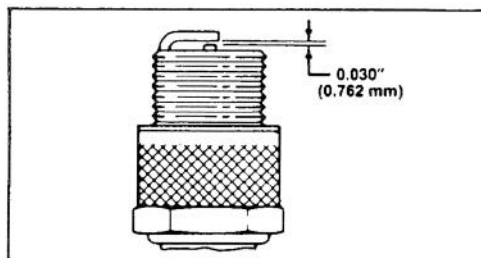

Figure 16
3. Set air gap at 0.030" (0.762 mm) (Fig. 16). Install correctly gapped spark plug and gasket seal. Tighten plug firmly to 15 ft-lb (20.4 N-m).